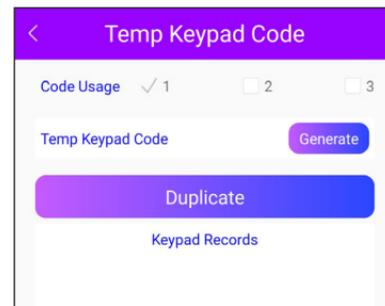

Fig. 7
Step 3. Code Usage limits the number of times a keypad code can be used. Set the number of uses for this passcode, between 1 and 3, then tap Generate to create the passcode (Fig.7).